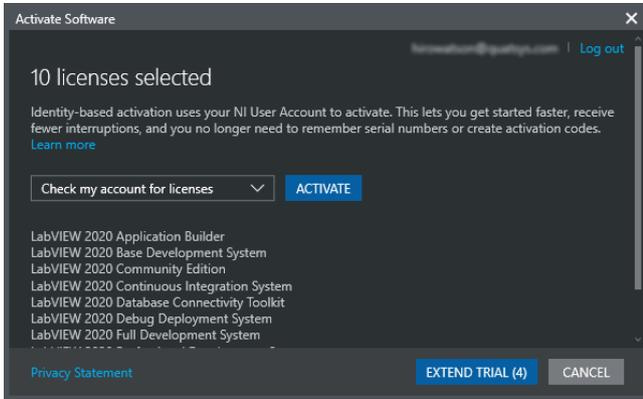
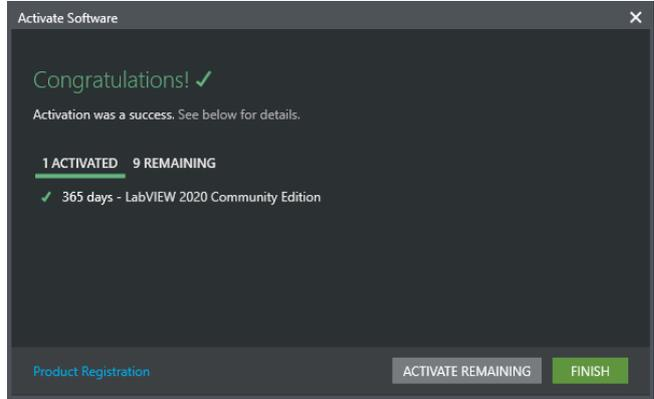

Figure 2-21 Activating license
Figure 2-22 Activation complete
13. Once logged in, we will activate LabVIEW. Check to make sure “Check my account for licenses” is selected and click “ACTIVATE” (Figure 2-21). In your user accounts, you already have the license for LabVIEW Community Edition, so there are no other special steps required for activation (Figure 2-22).